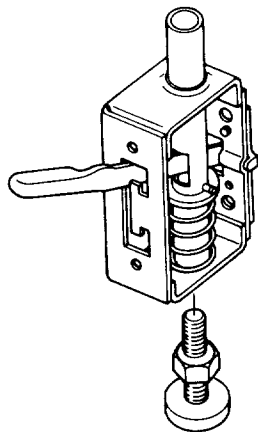

Fig. 27 - Left Foot Assembly
15. Screw the *leveling foot* into the *rod* until the hex nut reaches the bottom of the *rod*. (Figure 27)